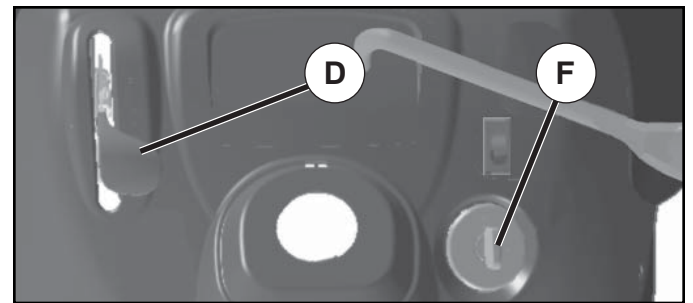

Fig. 7
### TO USE THROTTLE CONTROL (D) (See Fig. 7)